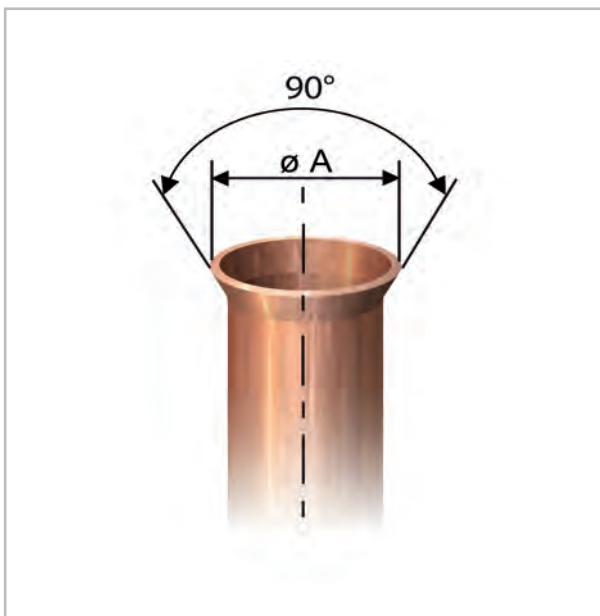

Fig. 34: Correct flange shape
9. ➤ Verify that the shape of the flange is correct (Fig. 34).